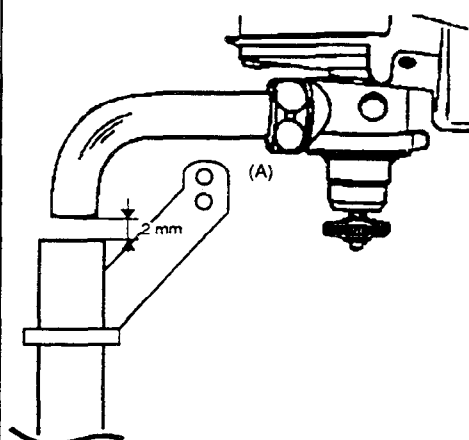

Fig. 24
N.B. The drain must be 22 mm and the 14 mm drain bend from the safety valve must be installed so that discharge of water is readily visible. A tundish arrangement is acceptable. The connection must NOT be made by a capillary or compression fitting directly between the 14 mm drain bend and the 22 mm discharge pipe without an 2 mm air gap. see fig. 24.